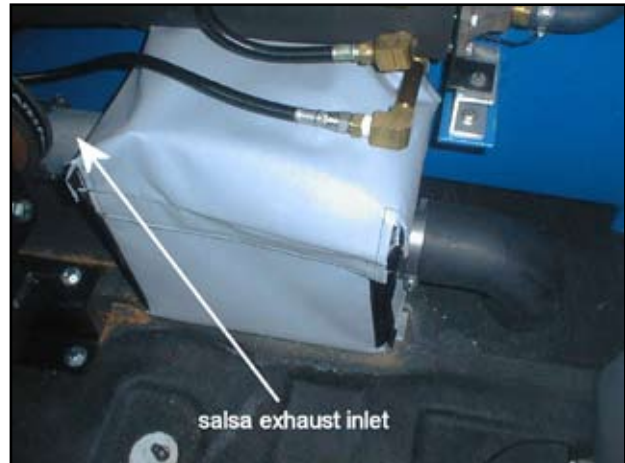

Figure 20. Attach Short End of Elbow to Salsa Inlet
2. Attach the short end of the 3" rubber elbow to the Salsa inlet (see Figure 20).